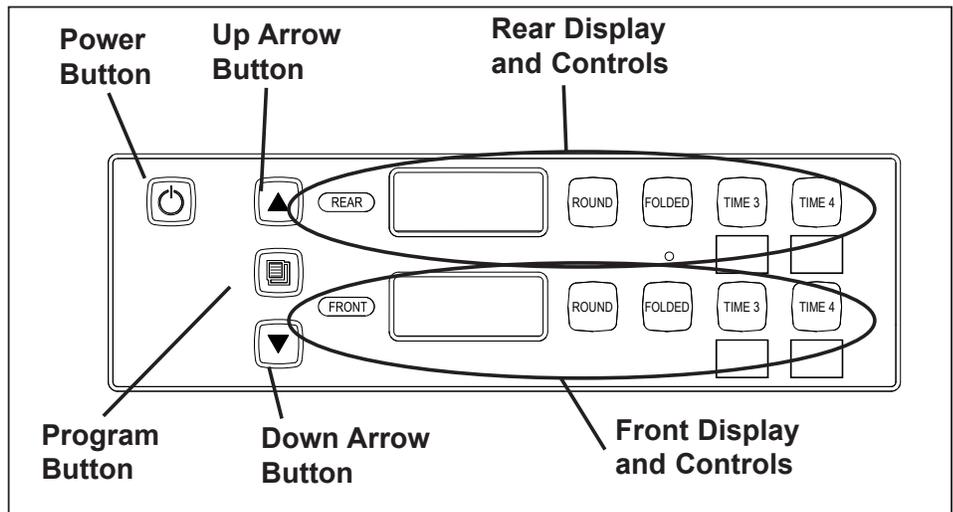

Figure 4. Operating Controls
5. Crack the eggs into the Egg Rings from Front to Back, right to Left as shown in Figure 4.
14. Raise the Egg Rack completely off the eggs and remove the eggs starting with the **FIRST** egg added (Figure 4). Continue removing the eggs in the order they were added until all eggs have been removed.